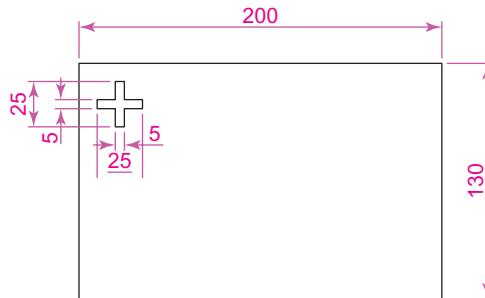

Fig. 5.3 First example – Copy Object – outlines
1. Construct Fig. 5.3 using **Polyline**. Do not include the dimensions.